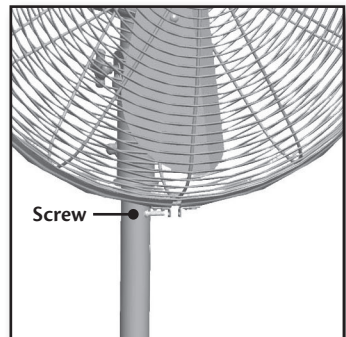

Figure 18
- Tighten the screw to secure the grill ring over both the front and back grill. Figure 18.